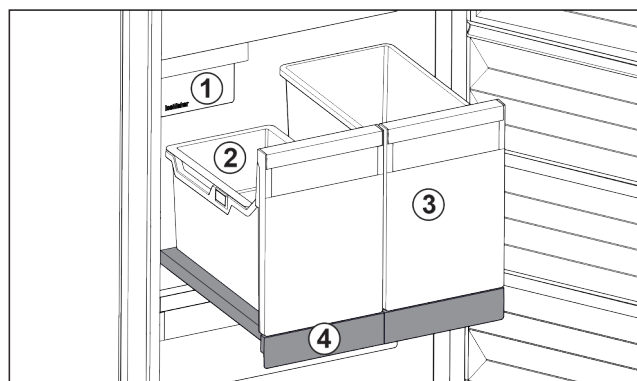

Fig. 30 Pull-out board with IceTower
On the pull-out board are two tall containers (IceTower). Ice cubes from the IceMaker are collected and stored in the container Fig. 30 (2). The container Fig. 30 (3) is suitable for storing tall foodstuffs or beverages such as pizzas or alcoholic drinks.